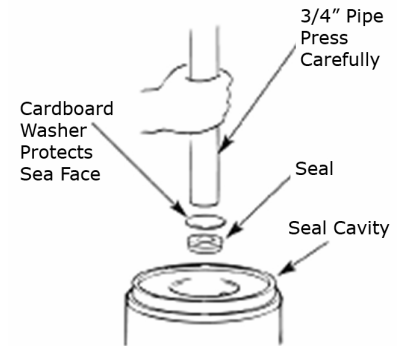

Figure 5c
9) If seal does not seat properly after cavity was cleaned, place a cardboard washer over polished seal face and carefully press into place using a piece of standard clean 3/4 in. pipe as a press. (Fig. 5c)